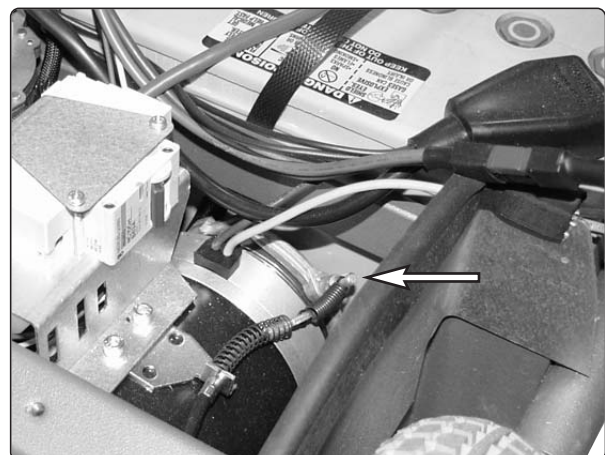

Fig.26. Brake release cable.
8. Pull the cable sleeve forwards and take the cable out through the slot in the cable mounting. Unhook the brake release cable from the magnetic brake, see fig. 26.